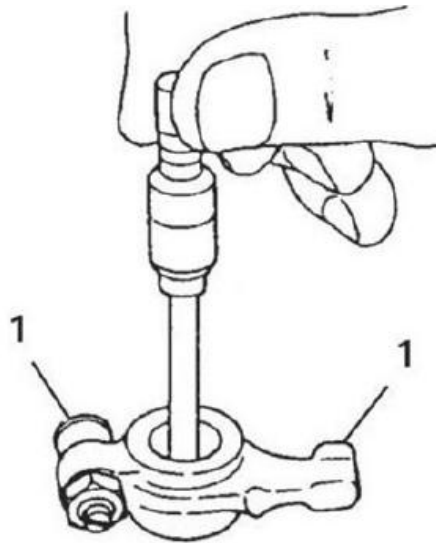

Figure 51. Rocker Arm Diameter Measurement
3. Use a micrometer to measure the rocker arm shaft diameter. Measure at each rocker arm location in two directions 90° apart (Figure 51). Allowable spec should be between 35.017mm - 35.030mm.
2. Use a telescoping gauge and micrometer to measure the inside diameter at each end of the valve guide. Measure in three places and 90° apart (Figure 51). See Intake / Exhaust Valve and Guide chart for the service limit. Replace valve guides if not within specification.